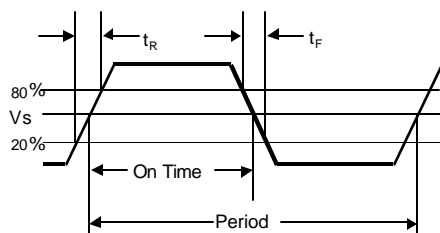
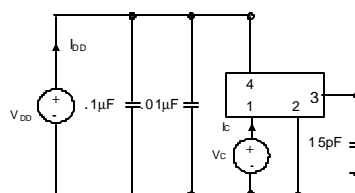

Figure 7. Output Waveform
Figure 8. Typical Output Test Conditions (25±5°C)
2. Figure 7 defines these parameters. Figure 8 illustrates the operating conditions under which these parameters are tested and specified.